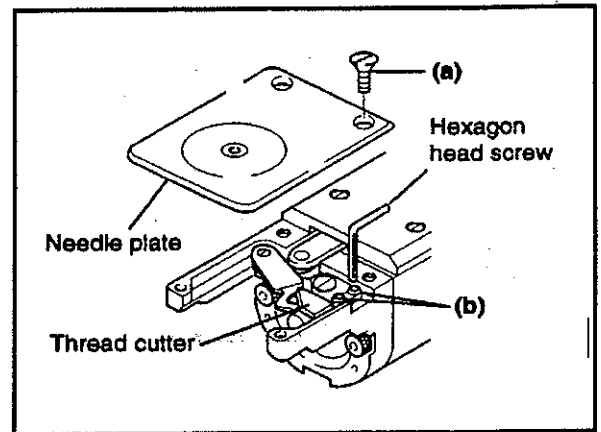

FIG.1
- (1) Remove the work table.
- (2) Remove two retaining screws (a) and detach the needle plate (Fig.1).
- (3) Remove two retaining screws (b) and detach the thread cutter (Fig.1).